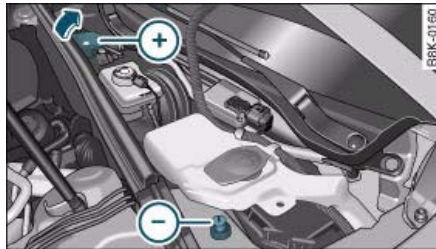

Fig. 229 Engine compartment: Terminals for jump leads and battery charger
- Open the red cap on the positive terminal ⇒ fig. 229.